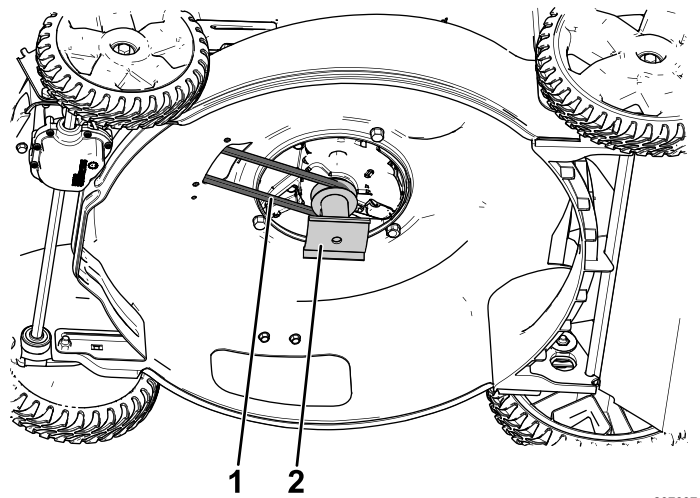

Figure 7
3. Install the blade drive and route the belt around it as shown in Figure 7.